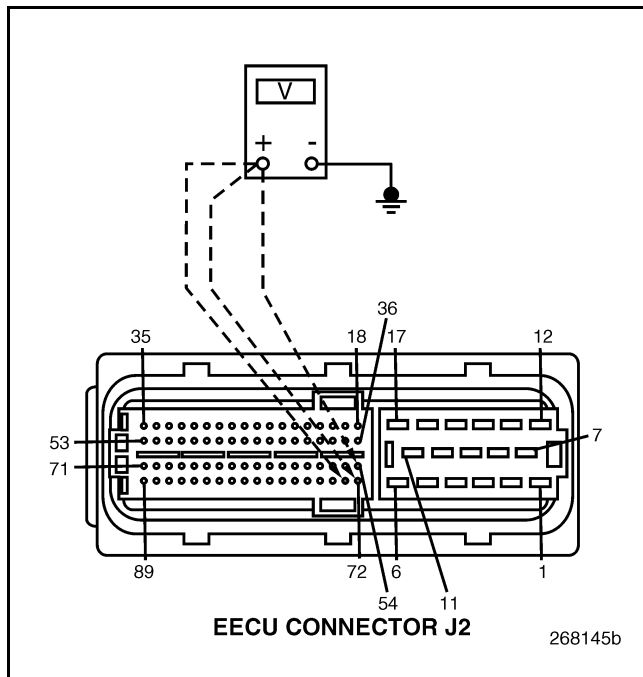

Figure 619
5. Measure the voltage between EECU connector J2 pins 54, 72 and 73 versus a good ground (see Figure 619).